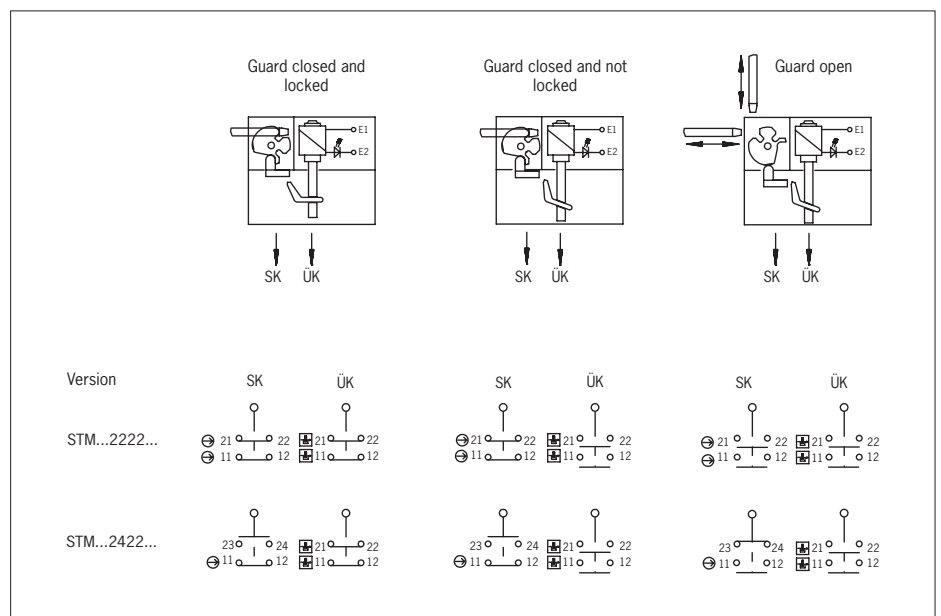

Fig. 4: Switching elements and switching functions
At least one contact \odot must be used. Contacts with the \square symbol can also be used (for terminal assignment, see Fig. 4).
3. Connect and tighten terminals with 0.5 Nm (for terminal assignment, see Fig. 4).